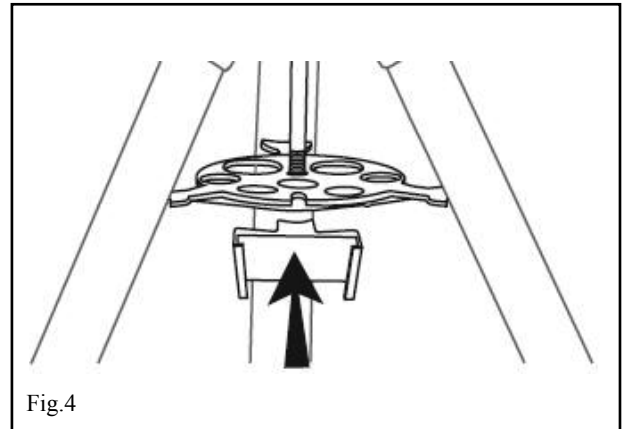

Fig.4
5. Install the hand control holder by sliding it into the accessory tray notch as shown in **Fig 4**. Push until it locks in place.